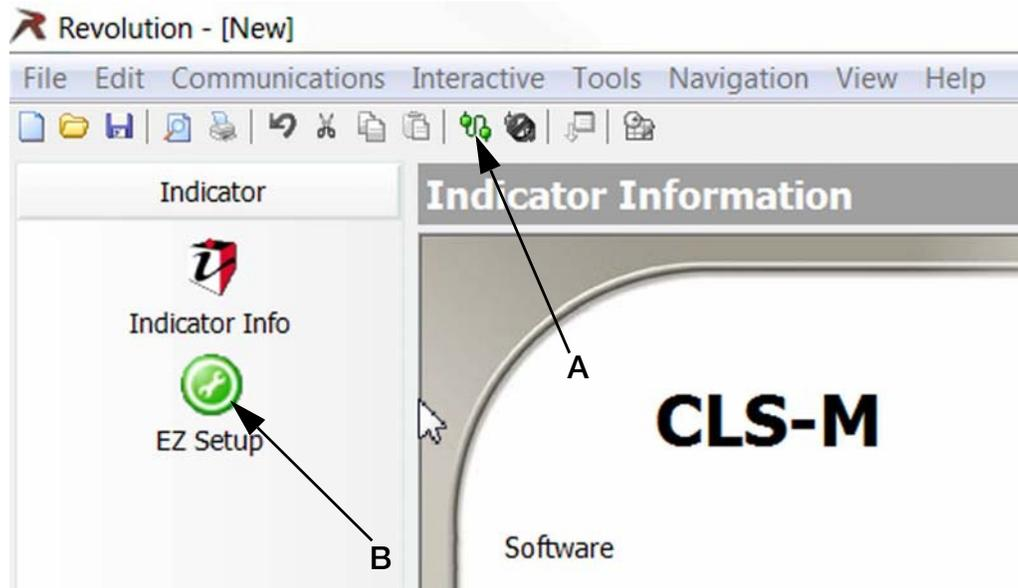
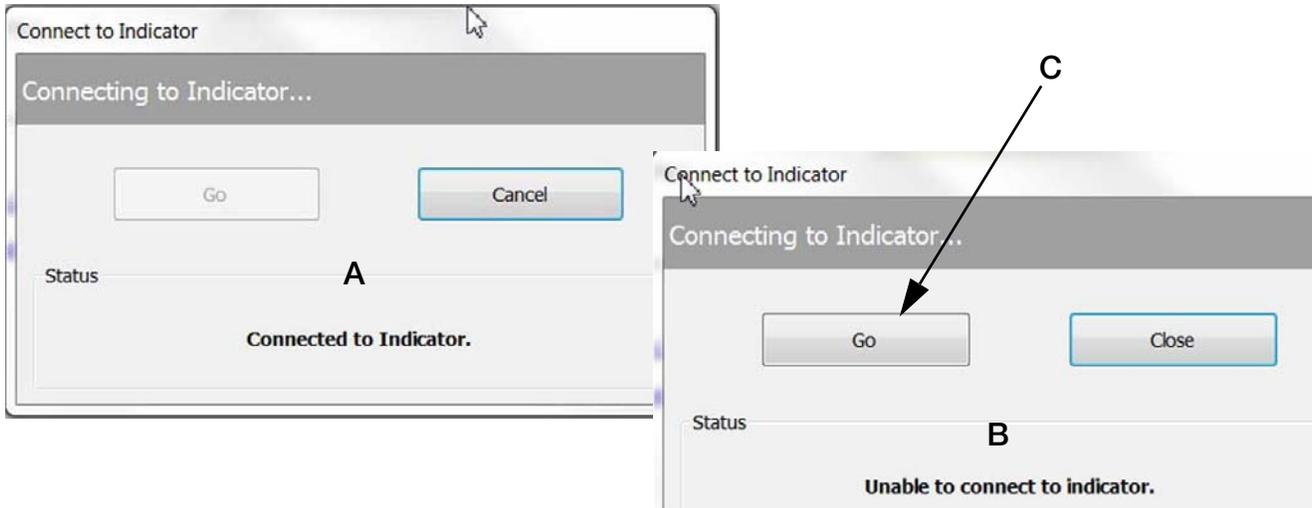

Figure 4-17. Connect Revolution to Power/Communication Box
Figure 4-18. Connection Success/Failure
10. Select the connect icon from toolbar (Figure 4-17 A). A pop-up box comes up momentarily (Figure 4-18 A) to indicate the computer is now indicated to the box.
11. If it comes up as **Unable to Connect to Indicator** (Figure 4-18 on page 34 B) verify the Comm Port is correct and that the power/communication box is turned on. Then select **GO** (Figure 4-18 on page 34 C) to connect.